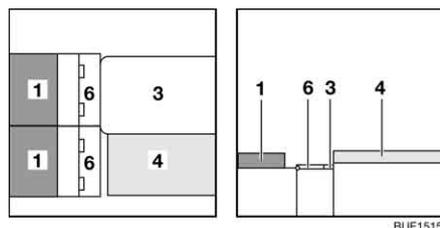

Fig. 138 During conversion
- Fold open both bench seat covers (Fig. 138,6) and lay them down on the table and the supports on the bench.
- Place the back cushions (Fig. 138,1) on the bench seat.